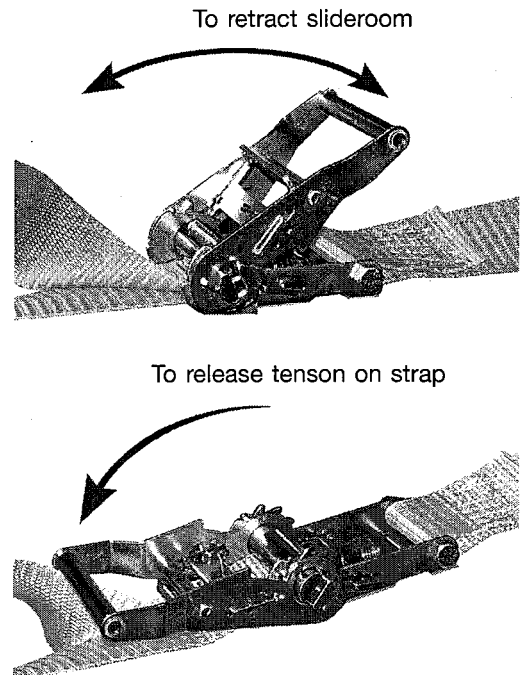

Figure 5.10
- 6 When retraction is complete, flip the ratchet handle flat as in **Figure 5.10**.